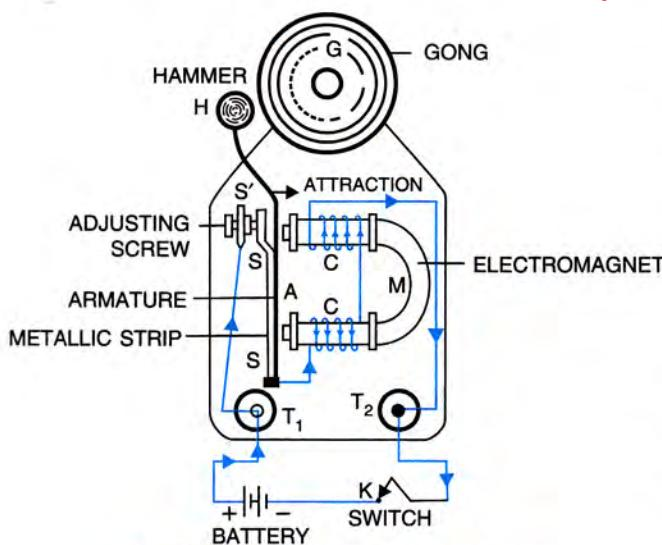

Fig. 10.9 Electric bell and its wiring
**Construction and wiring :** An electric bell is shown in Fig. 10.9.
magnetic effect of current. As the electric circuit is closed by pressing the switch K, the current flows through the coil CC and the core of the electromagnet gets magnetised and therefore it attracts the armature A as shown by the arrow in Fig. 10.9. Due to movement of the armature A, the hammer H strikes the gong G and the bell rings.